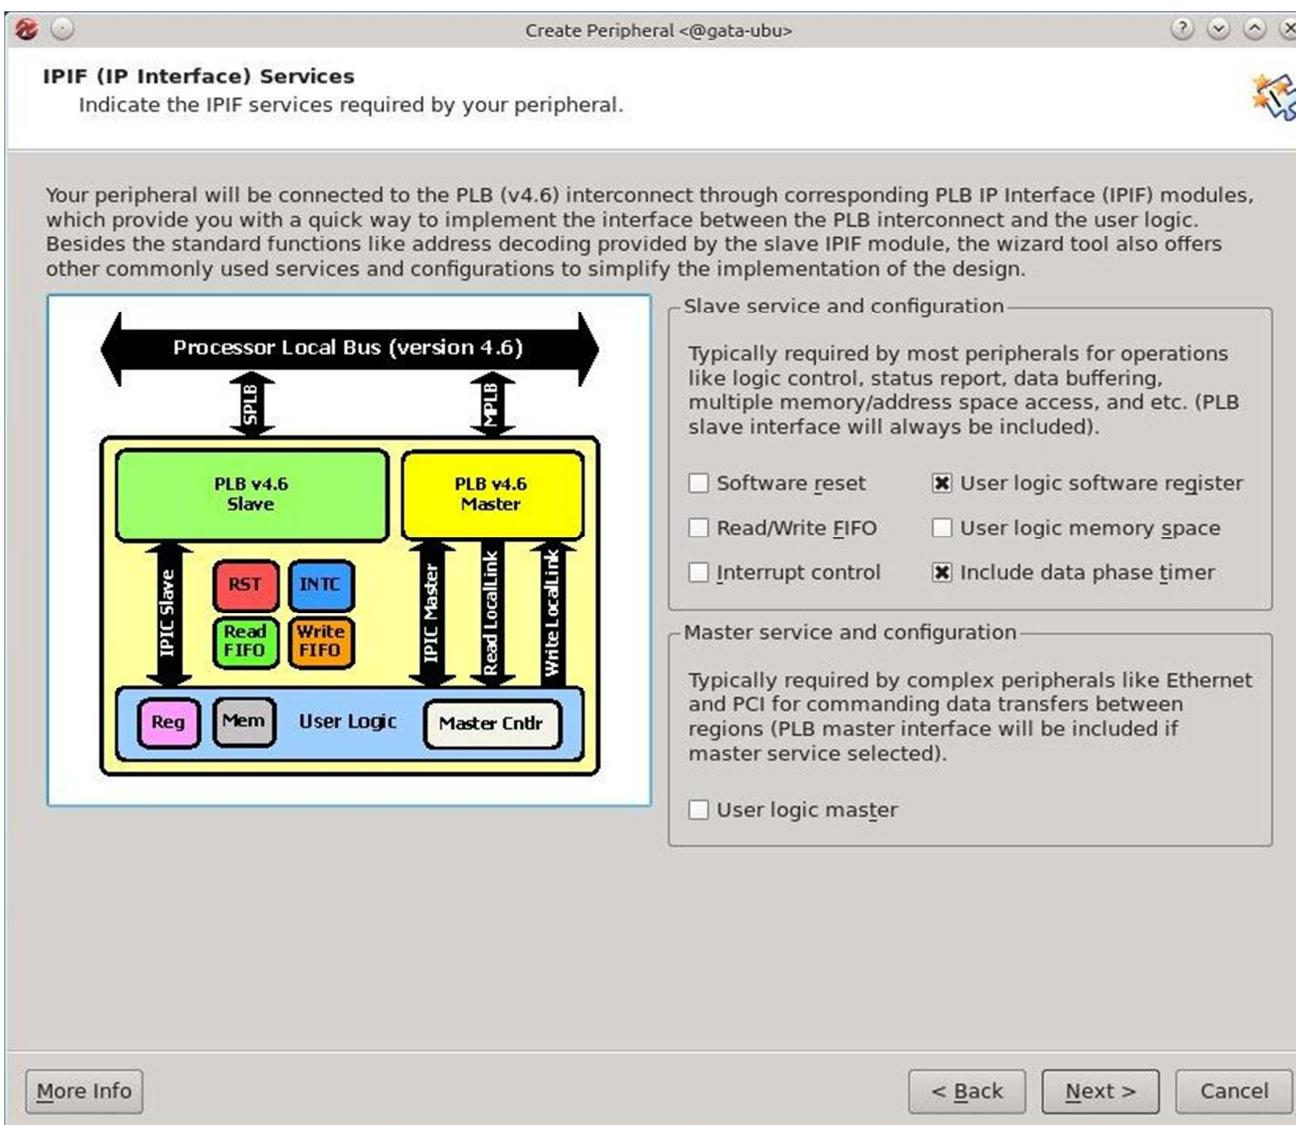

Figure 7: Create and Import Peripheral Wizard (Step 6)
**Step 6:** The PLB bus is based on a Master/Slave configuration. The bus can have multiple masters and slaves. In the design created in the previous Tutorial, Microblaze acted as the master of the PLB bus while all other peripheral acted as slaves. The master initiates the transactions and controls the data flow, while the slave peripheral waits for a transaction from the master. The master of the bus sends requests to the a specific address space, and the slave peripheral decodes that address and responds to the request if the address is recognized. The address of each peripheral is unique and all transaction are memory mapped. In this step we specify the configuration of the core we are about to create. The wizard will add VHDL logic block for slave, master, or both if required. You have to specify the components in the slave logic and if you want a master logic you can also do so. As you can see in **Figure 7**, you can add interrupt control, software reset, Read/Write FIFO, user registers, and more. Later you can modify these components and add more depending on the function of your peripheral. For the purpose of this tutorial select the options shown in **Figure 7**, then press “**Next**”.